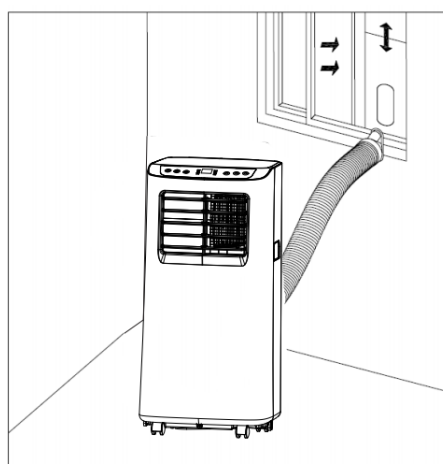
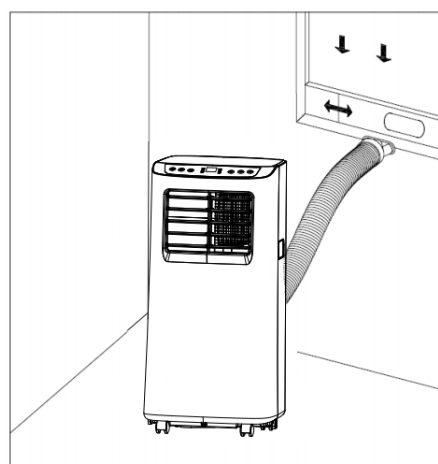

Fig. 5
Fig. 6
- 2) Extend the outlet piping and attach the flat end of the piping to the opening in the sealing plate assembly (see Fig. 5 and Fig. 6).